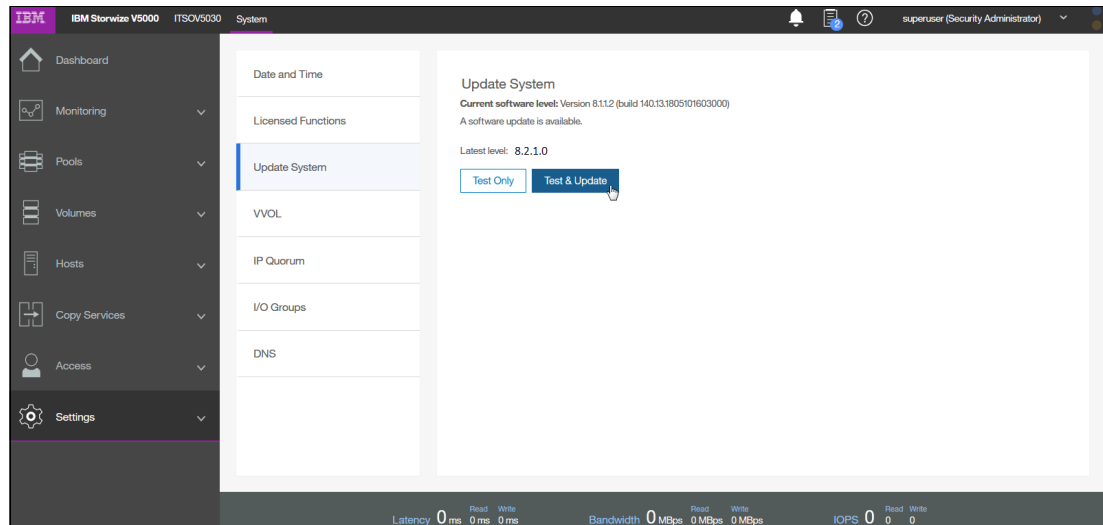

Figure 12-31 Update system window
1. Browse to **Settings** → **System** → **Update System** and select **Test and Update**, as shown in Figure 12-31.